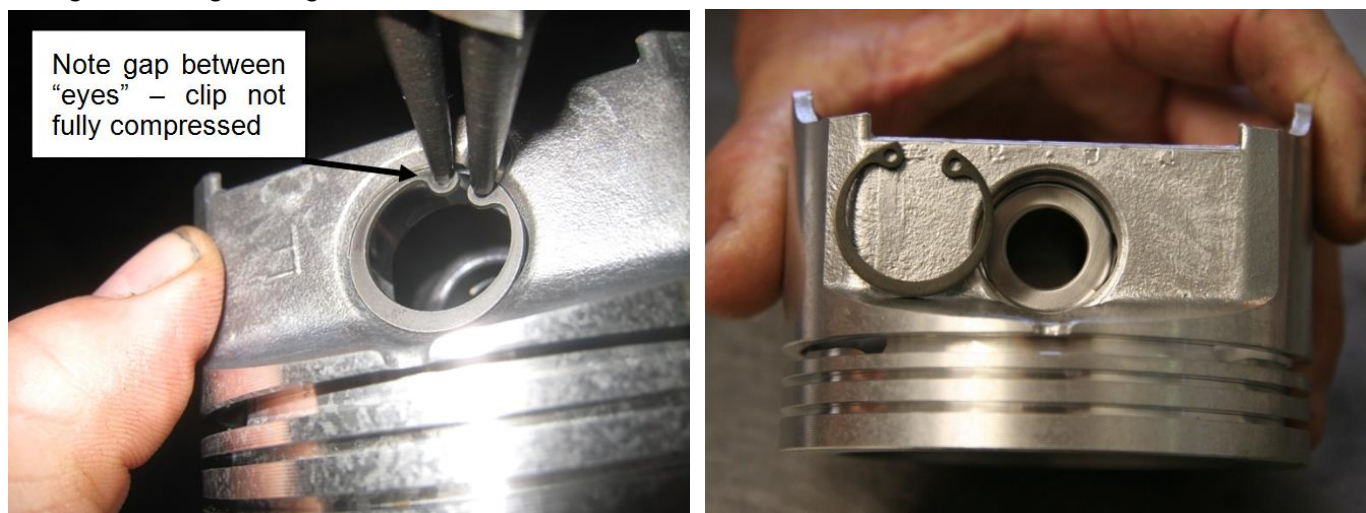
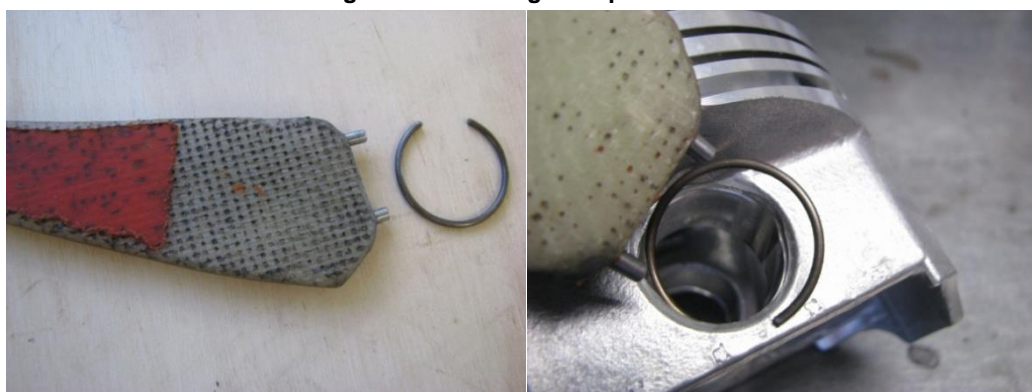

Figure 136 – Fitting Circlip to Piston
Figure 137 – Fitting Wire-Type Piston Circlips
- Many engines use a wire circlip in place of the part shown in Figure 136. Installation of that type of clip is shown in Figure 137.
- Both 25mm and 23mm internal circlips have been used in Jabiru engines, as shown in Figure 136.